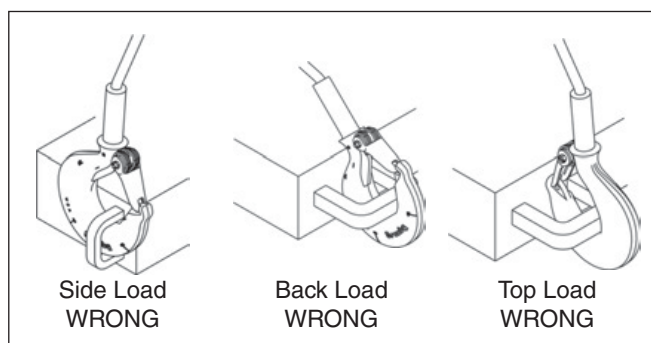

Figure 2
- See OSHA Rule 1926.1431(g)(1)(i)(A) and 1926.1501(g)(4)(iv)(B) for personnel hoisting by cranes and derricks. Only a Crosby or McKissick hook with a PL Latch attached and secured with bolt, nut and cotter (or Crosby Toggle Pin) or a Crosby hook with a S-4320 Latch attached and secured with a cotter pin, or a Crosby SHUR-LOC® hook in the locked position may be used for any personnel hoisting. A hook with a Crosby SS-4055 latch attached shall NOT be used for personnel lifting.
- Never side load, back load, or tip load a hook (See Figure 2).